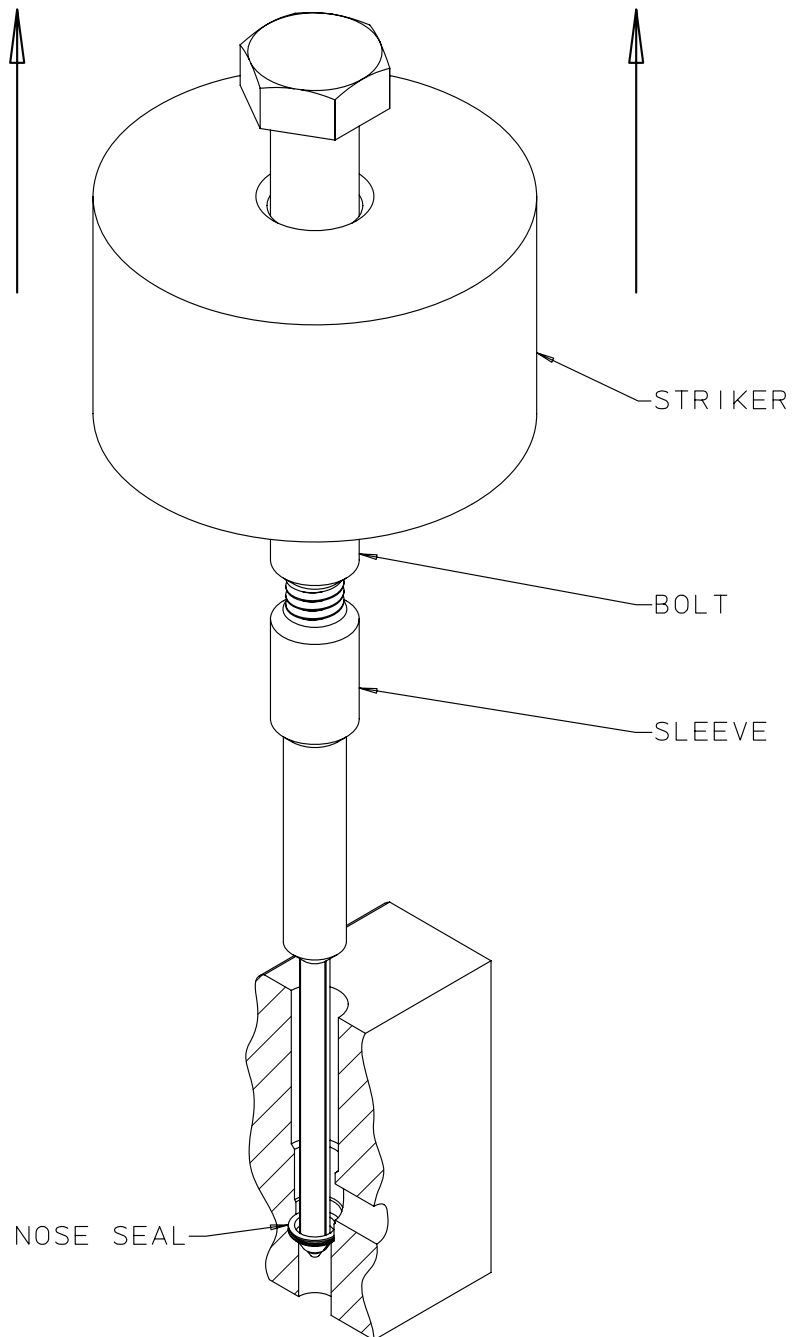

FIGURE 11
- 4c. Insert the tool into the installation hole until the head of the sleeve is through and beyond the nose/compression seal. Thread the tool assembly together expanding the end of the tool sleeve. (See Figure 11 on Sheet 32)